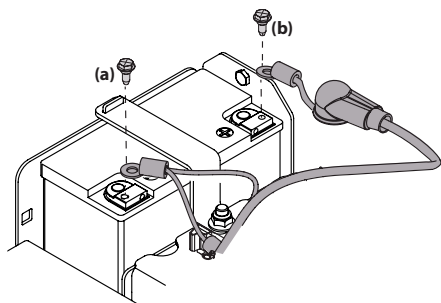

Figure 4-6
2. Remove the hex screw securing the black negative battery lead (a) to the negative battery post (marked NEG). Move the cable away from the negative battery post. See Figure 4-6.
3. Remove the hex screw securing the red positive battery lead (b) to the positive battery post (marked POS). Move the cable away from the positive battery post. See Figure 4-6.